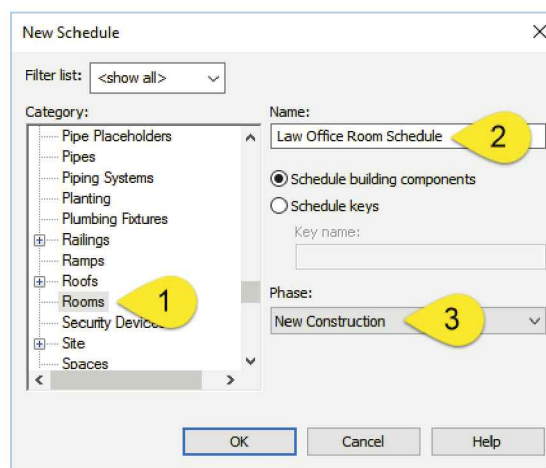

FIGURE 12-3.1 New Schedule dialog
6. Click **OK** to create the schedule (Figure 12-3.1).